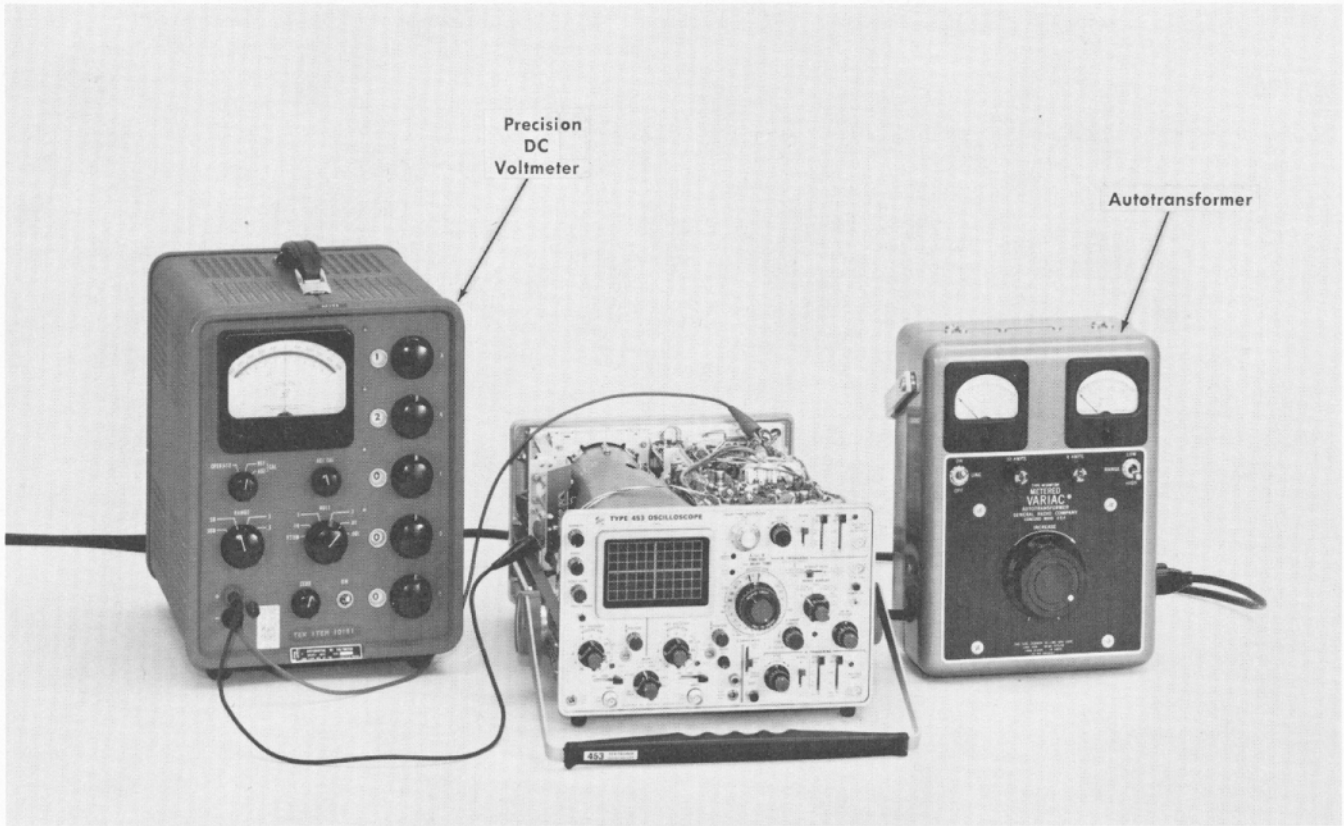

Fig. 6-4. Initial test equipment setup for steps 1 through 3.
- a. Test equipment setup is shown in Fig. 6-4.